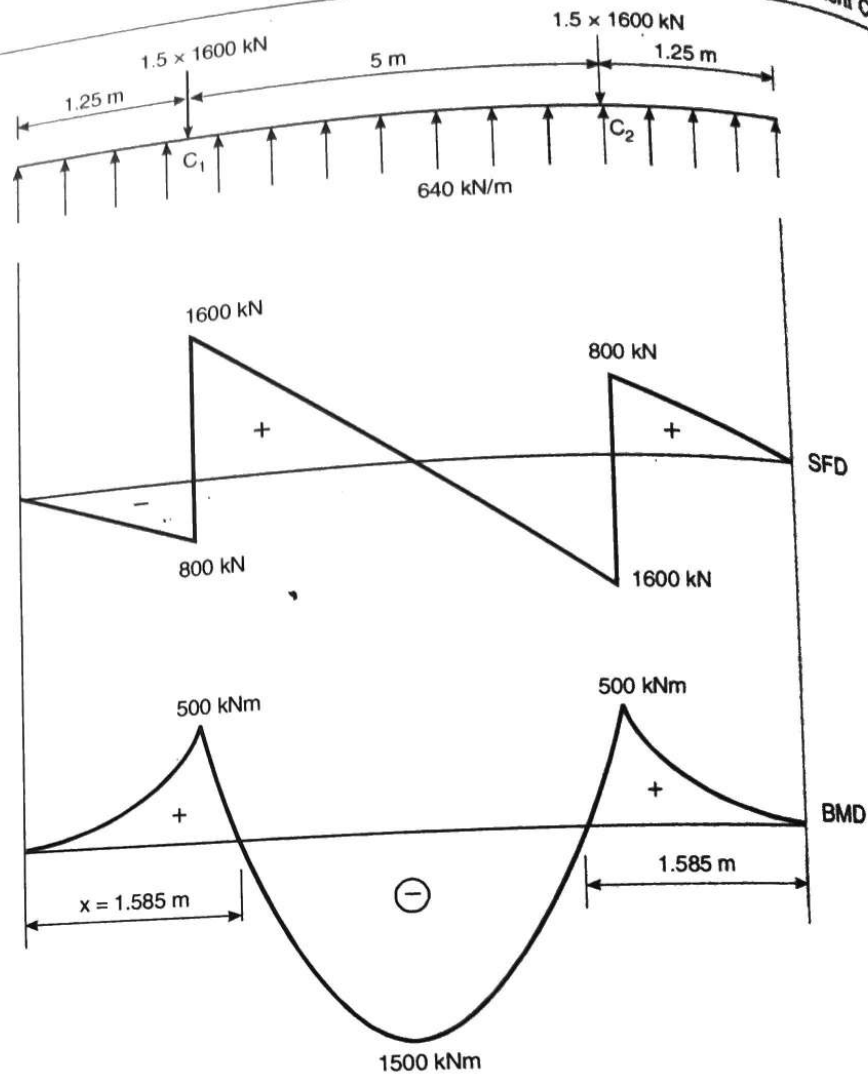

Fig. 14.27
1. Calculation of maximum bending moment and shear force (Fig. 14.27)